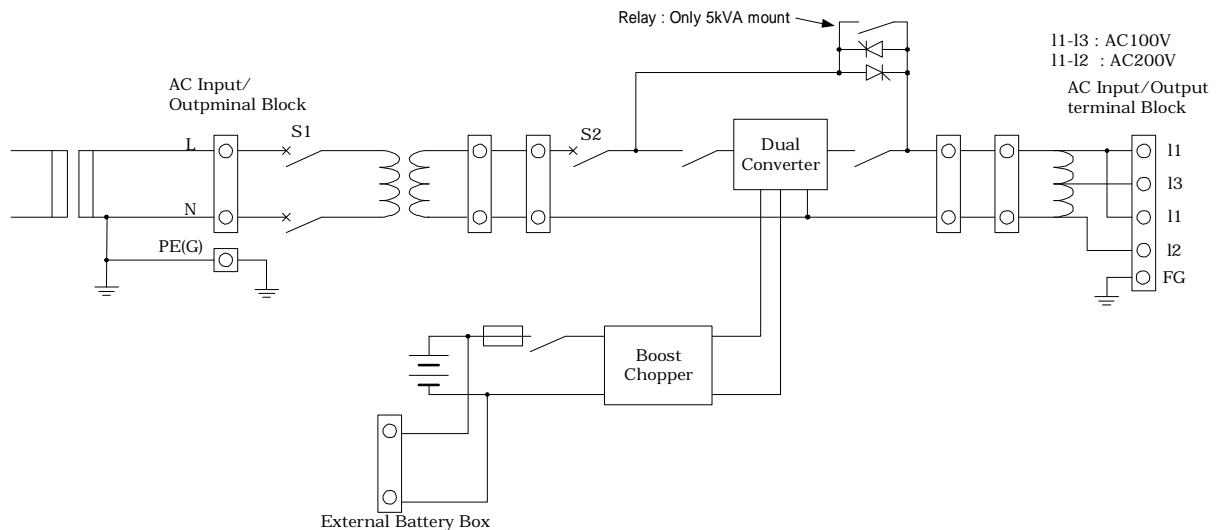

Figure 1. Circuit diagram of All Models
- Circuit diagrams are shown by figure 1.